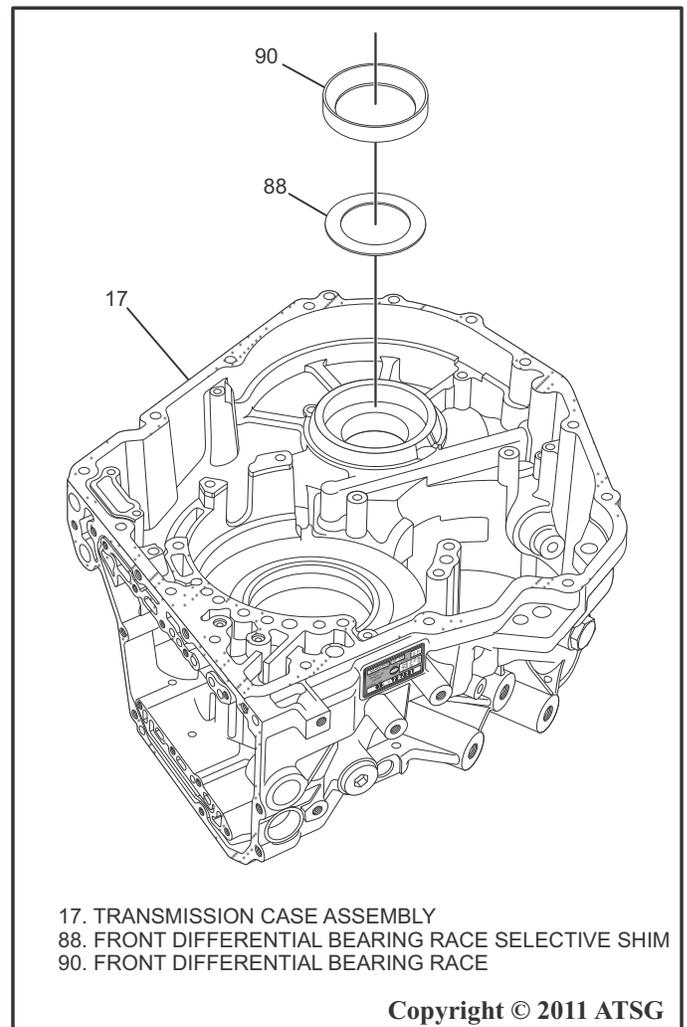

Figure 84
10. Using SST J 45160 differential bearing race remover and J 45124 removal bridge or other adequate bearing race removal tool, remove the front differential bearing race from the transmission case as shown in Figure 84.
11. Remove the front differential bearing race selective shim as shown in Figure 84.